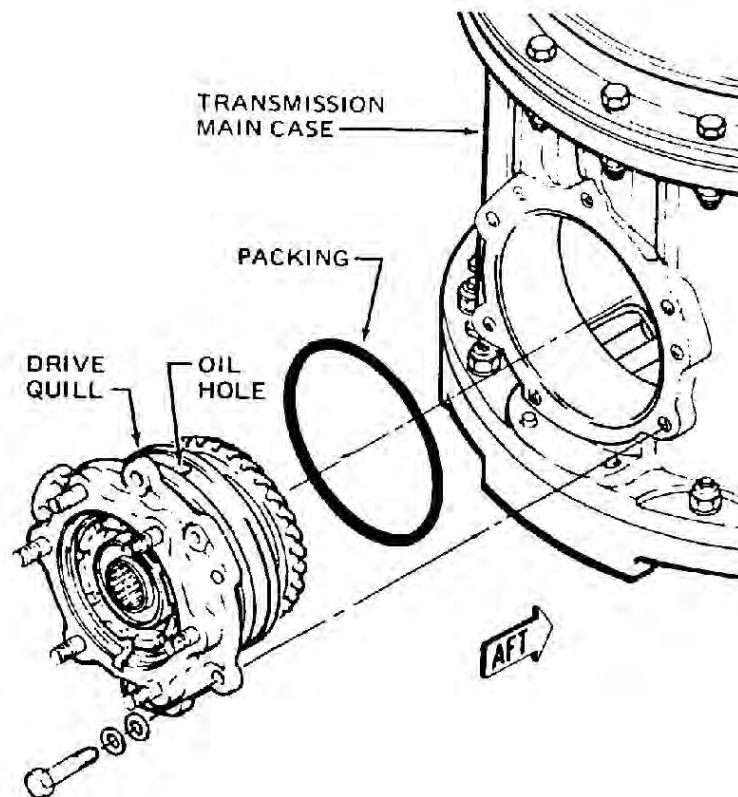

Figure 63-50. No. 2 Hydraulic Pump Drive Quill
63.7.6.1.4 Remove six bolts and washers around drive quill mounting flange (Figure 63-50).
63.7.6.5.2 Install new packing on quill (Figure 63-50). Lubricate packing and mating surfaces of quill and case with transmission oil (Chapter 12).